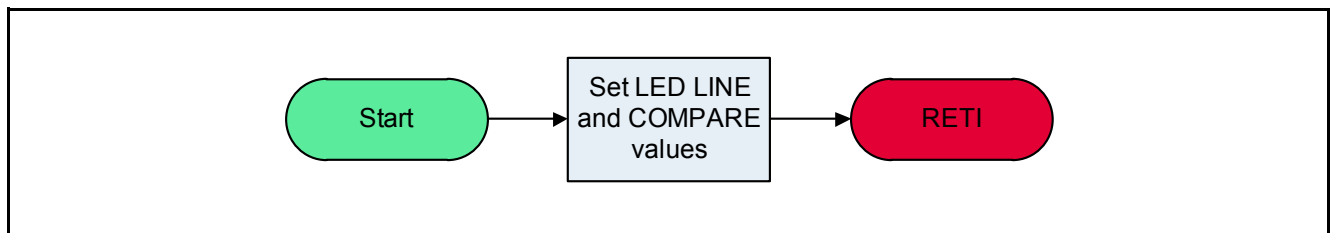

Figure 7 Time Slice Interrupt Service Routine
- Time Slice Interrupt (Figure 7)